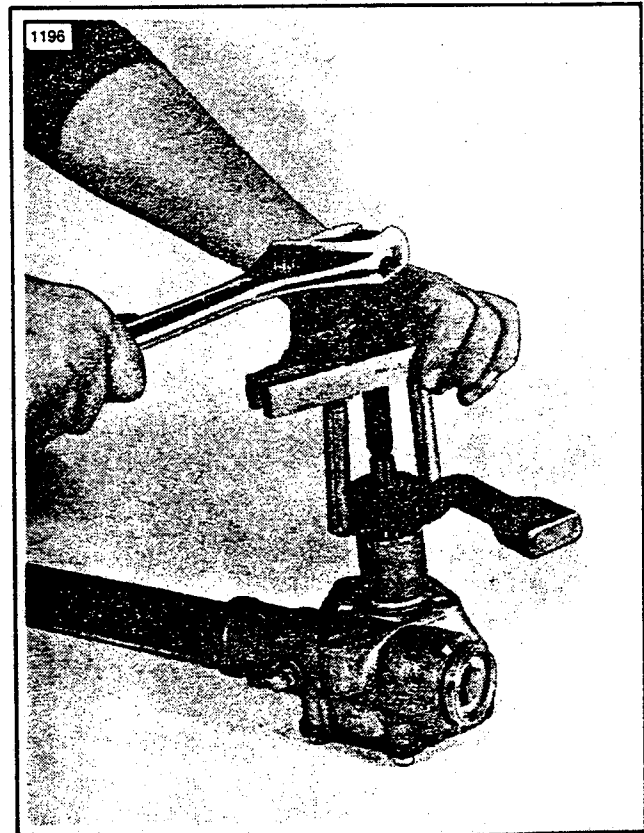

Figure 2-16. Pulling Pitman Arm
4. Remove nut (10) and lockwasher (9) from steering shaft (17).
5. Remove pitman arm (11) by using Harley-Davidson CLAW PULLER TOOL, Part No. 97292-61. See Figure 2-16.
6. Remove three bolts (12) and lockwashers (13).
7. Remove two bolts (15), lockplate (14), clamp (16) and support block (17).